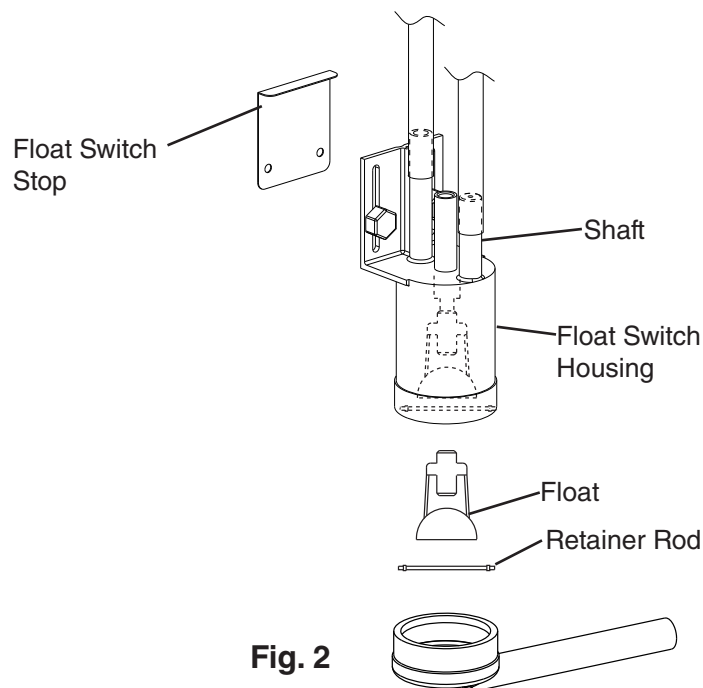

Fig. 2
- 7) Remove FS assembly and FS stop. See Fig. 2.